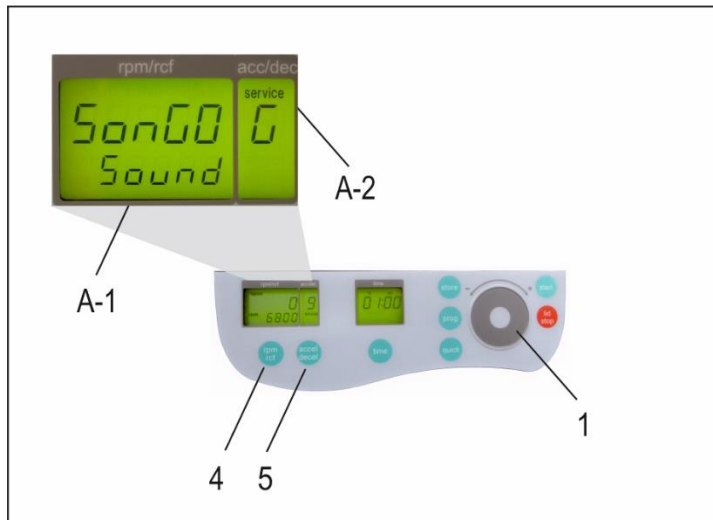

Figure 8
Proceed as illustrated, under point 3.2, to enter this program mode, press the key, "accel/decel" (5). In the display, "accel/decel" (A-2) flashes the word, "service". Select the letter, "G" with the control field (1). As a result, appearing in the display, "rpm/rcf" (A-1), the word " SonGo/Sound". After pressing the key „rpm/rcf“ (4), select a song with the adjusting knob (1), (see Figure 8).